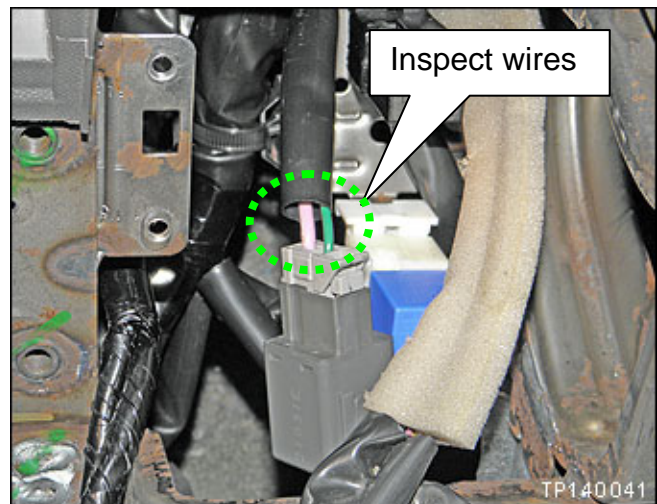

Figure 11
12. Inspect the wires at the Circuit Breaker-2 connector (see Figure 11).